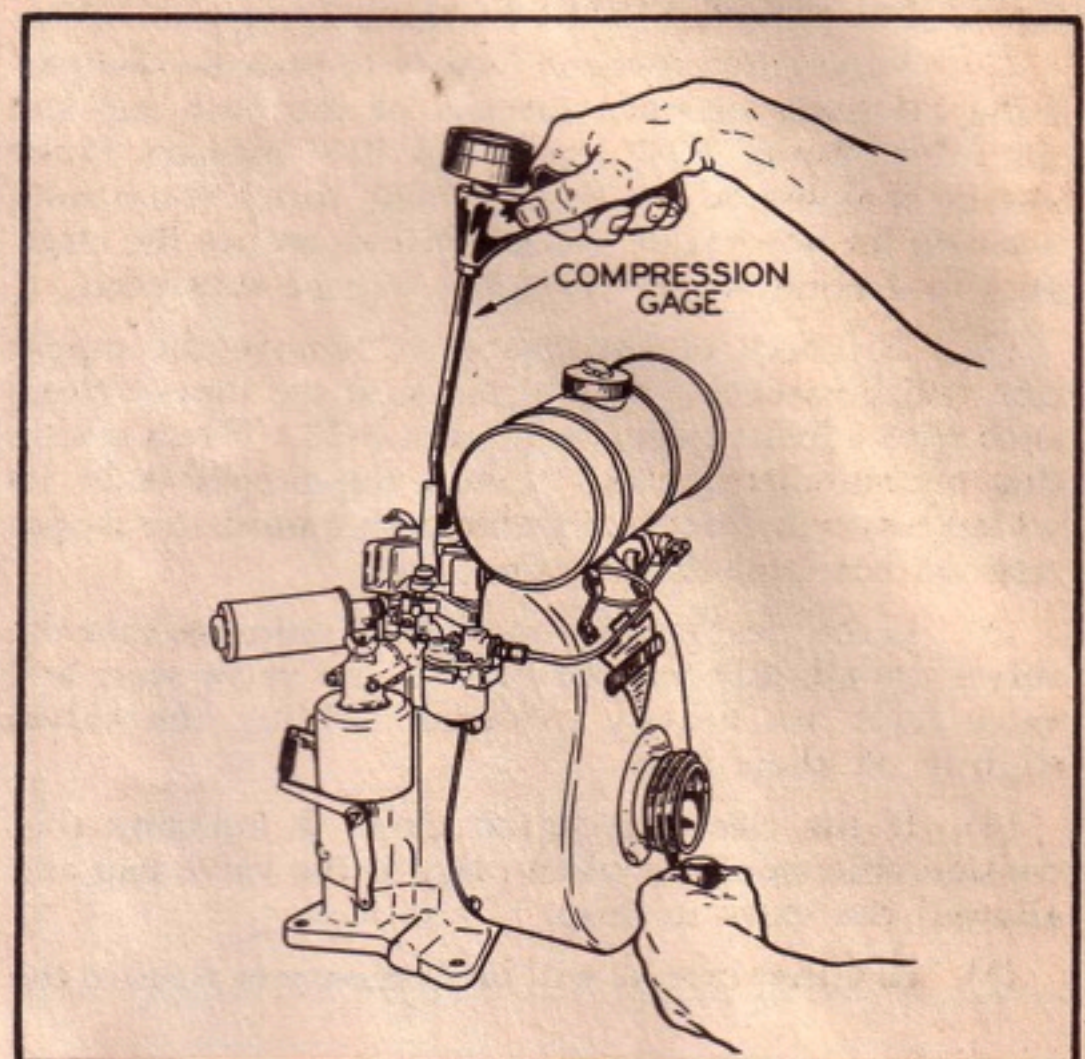

Figure B-27. Testing Compression
(See Figure B-27.)
(2) If the engine is equipped for rope starting, wind the full length of the rope around the starter pulley and give a sharp, quick pull. (See figure B-27.)
(3) If the engine is equipped with a kick starter, check compression by holding the gage in the spark plug hole and operating the kick starter through one full stroke.
(4) Compression in either case should build up to approximately 75 pounds on the gage. If pressure is low, it indicates that compression is leaking out of the cylinder, due to valve leakage, or leaking around the piston rings or cylinder head gasket. If compression is low, the engine should be overhauled.